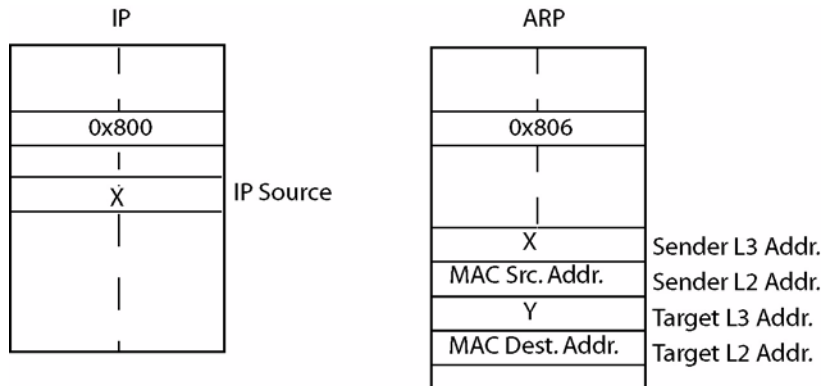

FIGURE 15-4 ARP filtering
Following is an example of what occurs when ARP filtering is enabled on a system. Refer to Figure 15-4 when reading the next section of text.
2. Add a IP filter for 'X' in Figure 15-4. Deny all other IP packets. Note that ARP filtering is not enabled, so ARP and any other non-IP packets can pass.